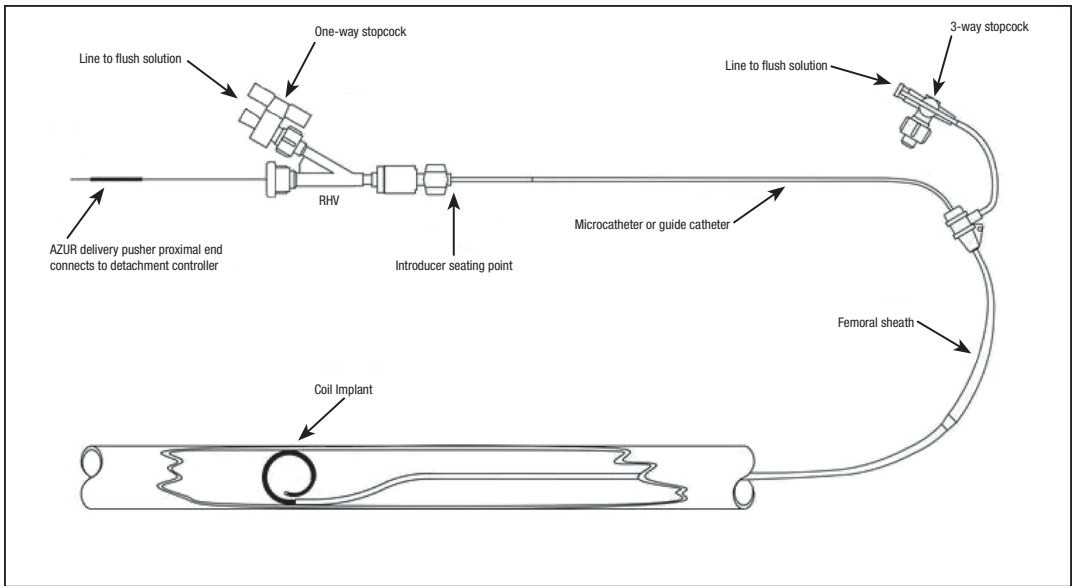

Figure 1 – Diagram of Azur System Setup
- Do **NOT** use in conjunction with radio frequency (RF) devices.
1. Refer to Figure 1 for the set-up diagram.